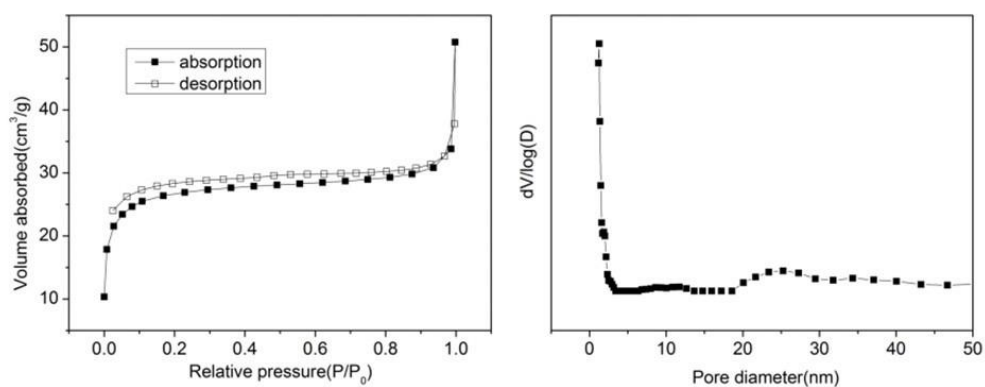

Fig. S8 N₂ absorption-desorption isotherm (left) and its corresponding pore size distribution (right) of Ni-ntca.
- VIII. **Fig. S8** N₂ absorption-desorption isotherm (left) and its corresponding pore size distribution (right) of Ni-ntca.